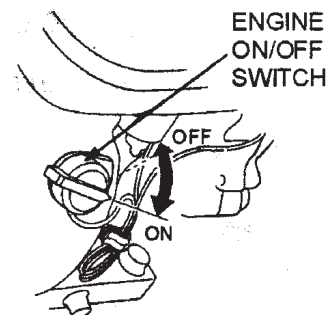

Figure 20. Engine ON/OFF Switch
5. Place the ***engine ON/OFF switch*** (Figure 20) in the "ON" position.